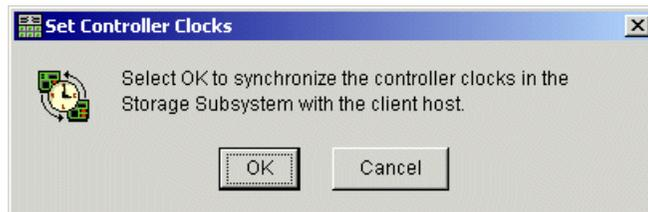

Figure 5-14 Set Controller Clocks window
2. The Set Controller Clocks window is displayed, as shown in Figure 5-14: